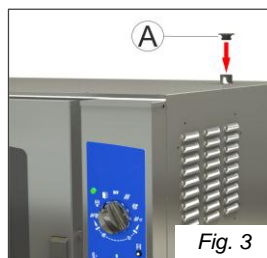

Fig. 3
**1.5 AUXILIARY DEVICES (mod. CB)****Manual loading of the boiler for the descaling (Fig. 3)**